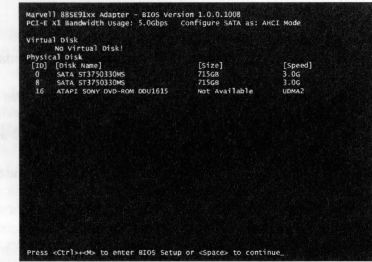

Figure 5
3. Figure 5 shows the messages displayed during the POST of the SATA controller card